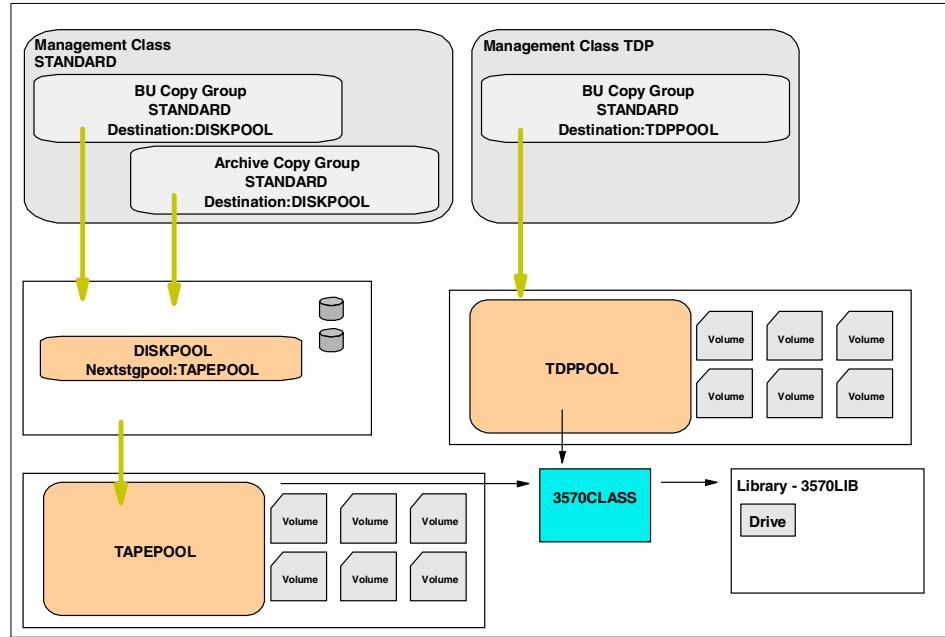

Figure 101. Original storage setup on Diomedea
3. The next step would be to move the data from the disk storage pool used by the TDP client to the tape storage pool. This due to the fact that after the migration, the Storage Agent will require that you only use a tape storage pool. In our example, however, as shown in Figure 101, this is not required, since no disk storage pool is used for the TDP client (TDP management class).